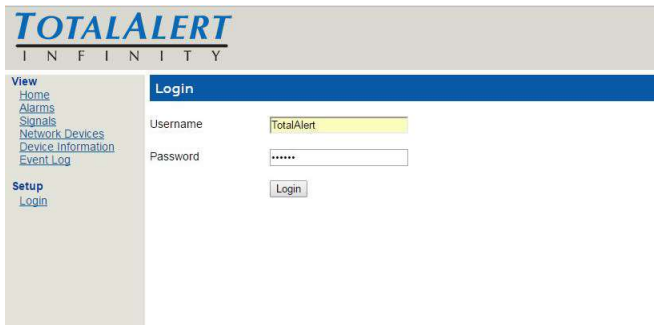

Figure 259
2. The web browser will request a username and password (See Figure 259). The factory defaults are: